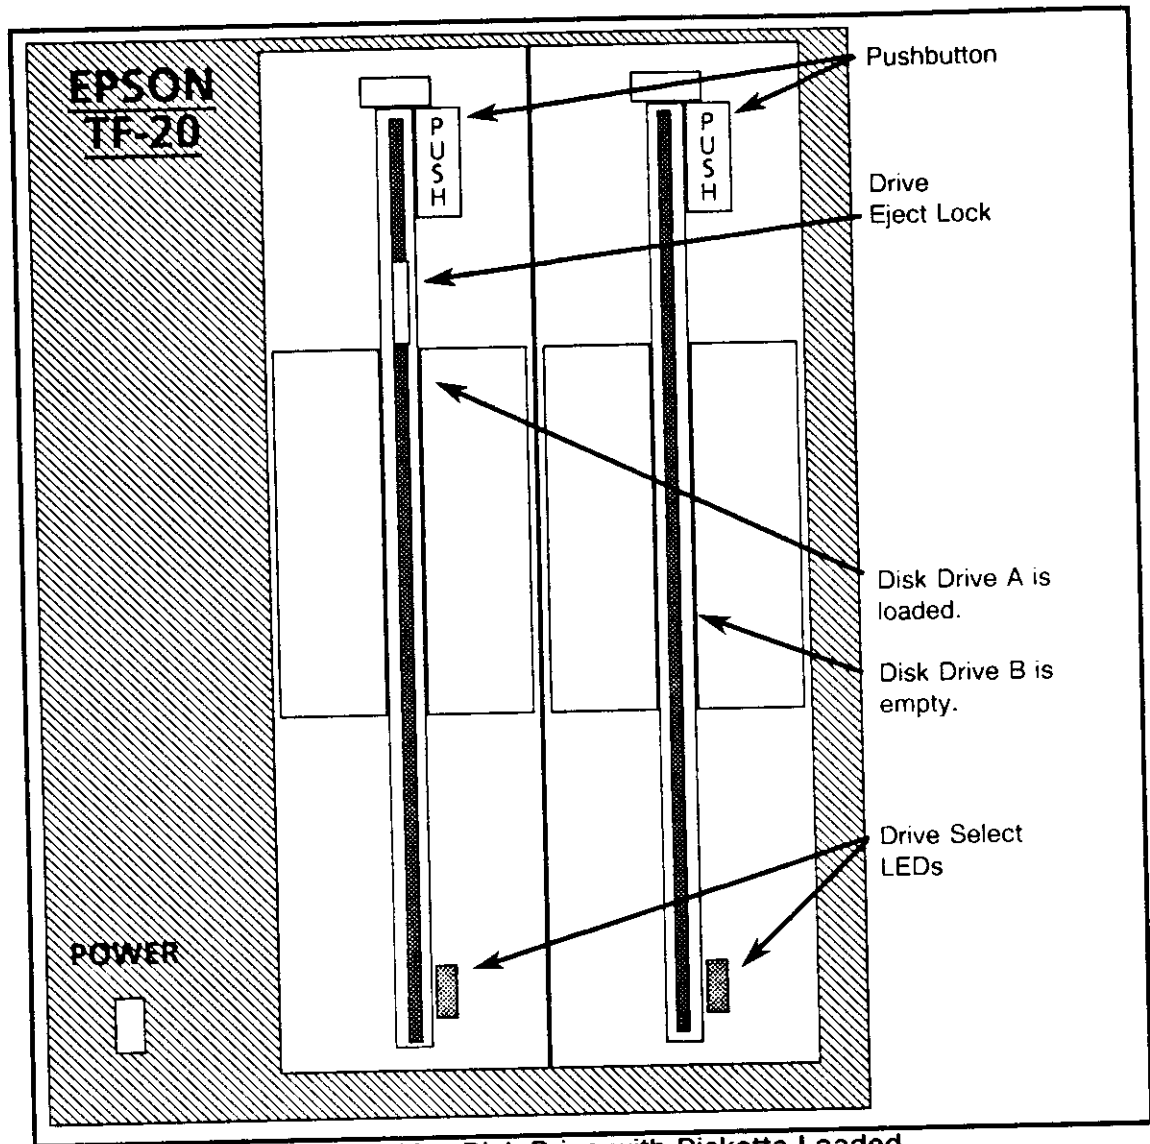

Figure 2.13 Disk Drive with Diskette Loaded
3. Push the floppy diskette in until a click is heard and the drive eject lock pops out (Figure 2.13).